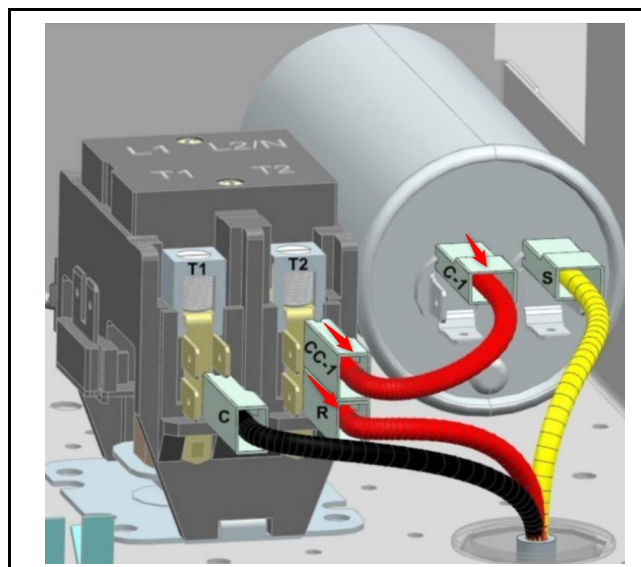

Fig. 16 Wire Removal at the Contactor
1. Perform the following at the main unit's control box (refer to Fig. 16):